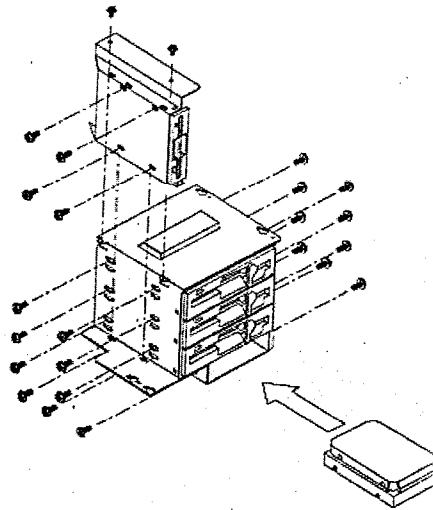

Figure 2.4-3: Inserting the drives into the drive bay
3. Remove the cover to the drive bay front and insert the drives into their proper locations in the drive bay. (See Figure 2.4-3)